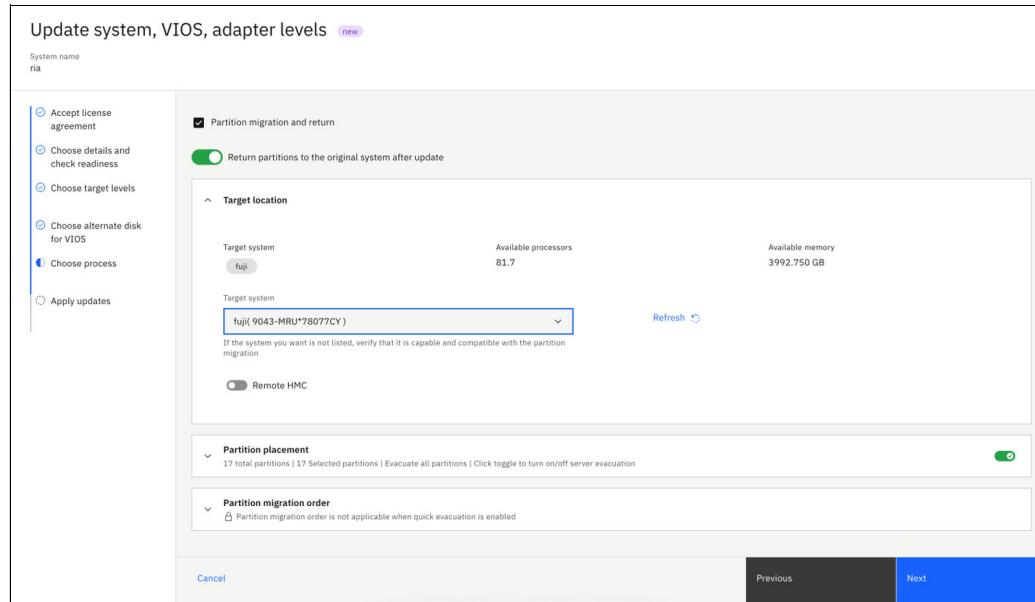

Figure 5-5 Choose Process
3. To preserve the system availability, for disruptive upgrades and updates, the partitions migration panel is shown as in Figure 5-5.